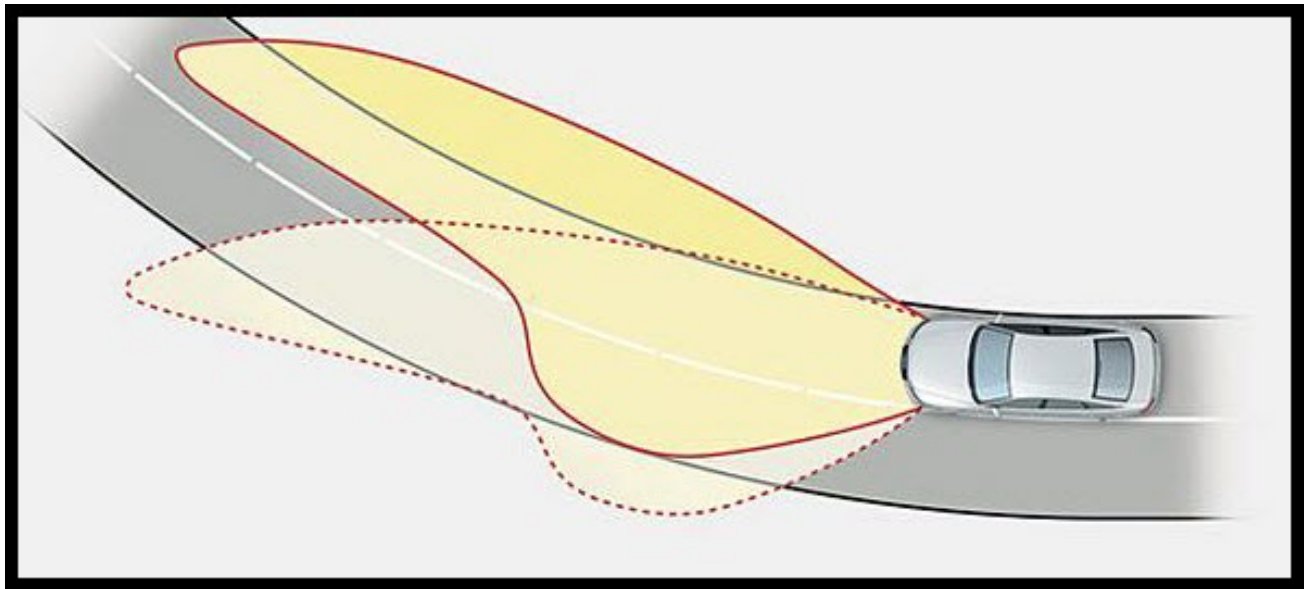

Figure 5. Audi adaptive light illustration showing the maximum 15° curve of the light beam at speeds greater than 6mph.
- If Audi adaptive light is equipped, test its functionality by driving the vehicle around a corner at a speed greater than 6 mph (Figure 5).